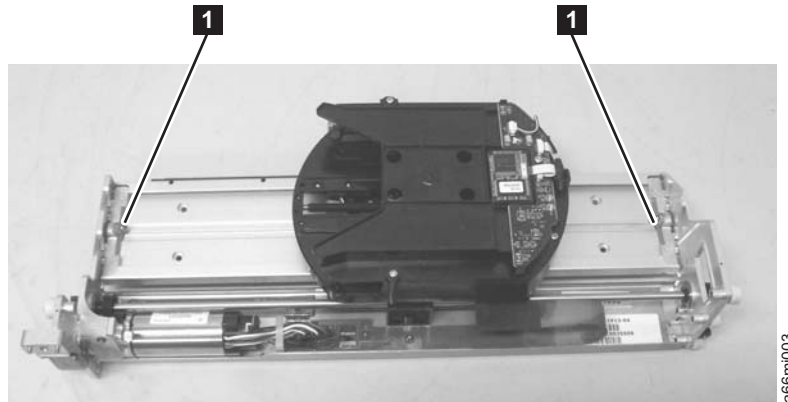

Figure 8-53. Thumb screws
7. Loosen the front and rear thumb screws (**1** in Figure 8-53 on page 8-56).
2. Tighten the front and rear thumb screws (**1** in Figure 8-53).
3. Reach through the Access Door and loosen the screws (**1** in Figure 8-53) on the front and rear of the Picker Assembly.
3. Reach through the I/O Station door and tighten the screws (**1** in Figure 8-53 on page 8-56) on the front and rear of the Picker Assembly.